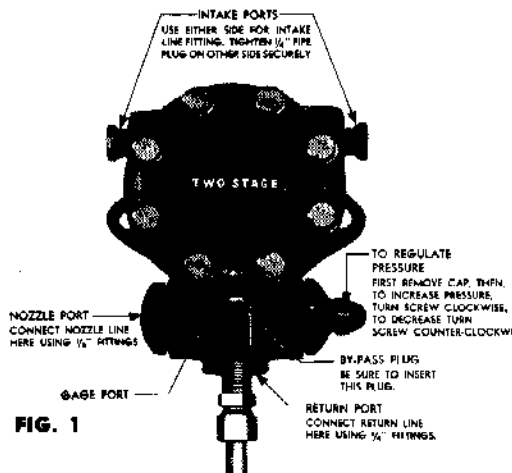

FIG. 1
All Sundstrand fuel units are shipped from the factory with the pressure set at 100 P.S.I. Should it be necessary to change this pressure refer to Figure 1.
IMPORTANT: On "two-pipe" system, Model H must be mounted with return port at bottom as shown in Fig. 1.
3. Remove internal by-pass plug from cloth bag and insert as shown in figure 1.